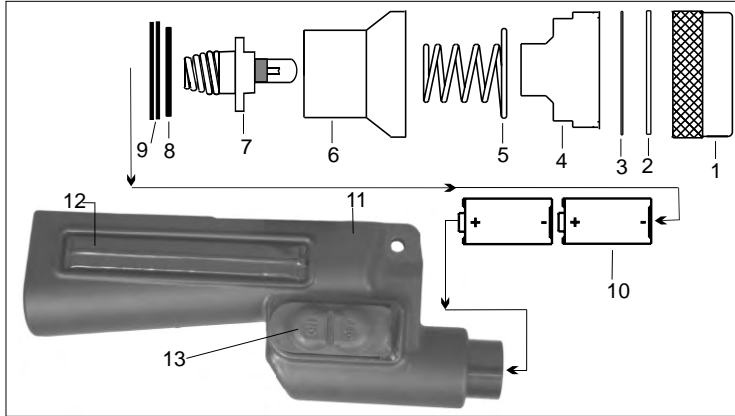

Figure 1
Step 4. Install the batteries in the foregrip. See Figure 1.
B. Check the battery installation to make sure the batteries were installed with the positive (+) terminal facing out of the foregrip as shown in Figures 1, p. 6; 4, p. 9; and 5, p. 10.
Step 4. Install the new batteries with the positive (+) terminal facing into the foregrip and the negative (-) terminal facing the flashlight head. See Figures 1, 4 & 5.